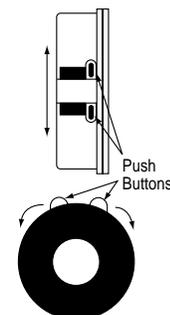

Figure 13
- ① Fully depress both limit switch push buttons. Operate switch to make sure system works properly.
- ② Raise shade/screen to desired "up" stop position.
- ③ Set upper limit by depressing and releasing the proper push button (see Fig. 13).
- ④ Lower shade/screen to desired "down" stop position.
- ⑤ Set lower limit by depressing and releasing the proper push button (see Fig. 13).